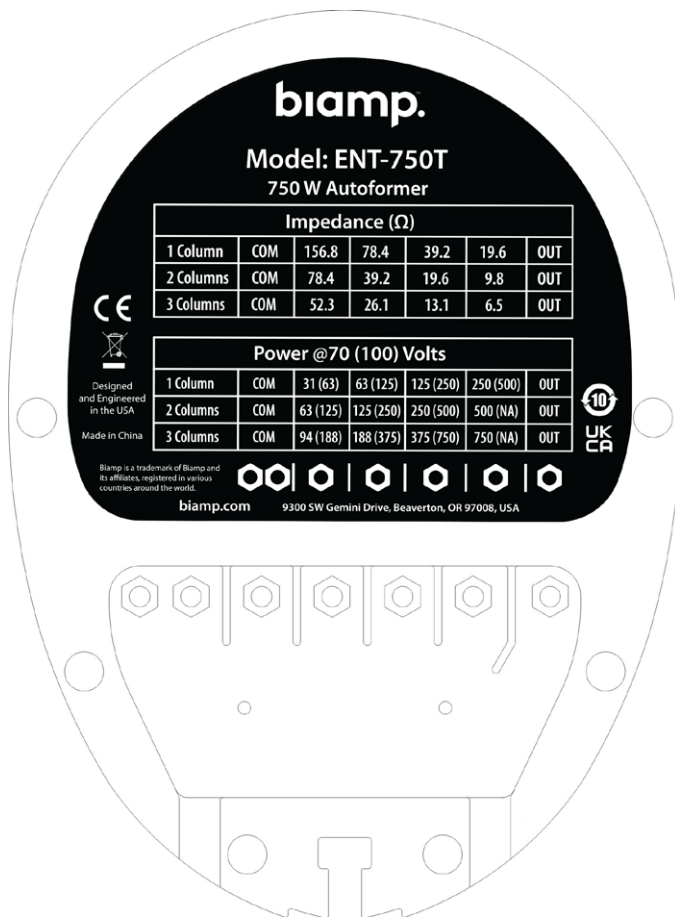

Figure 4. ENT-750T top view
3. The input wires to the autoformer are then attached to the barrier strip terminal. Note the proper terminals to which the input wires should be connected to yield the desired maximum drive level to an ENT array comprised of one, two, or three columns. This information is printed on the input label of the autoformer and is shown in Figure 4. Once all of the wires are connected to the autoformer the Input Panel Cover may be attached to the autoformer. This will help protect the input connections from moisture and debris.